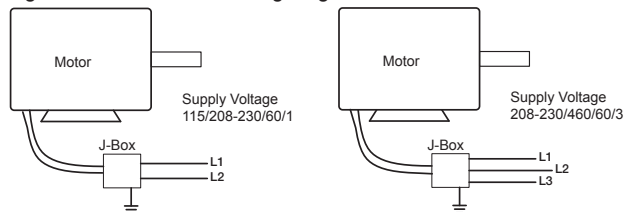

Figure 8
- 2. Wire motor for desired voltage per wiring diagram on motor. Refer to Figure 8 for connection wiring diagram.